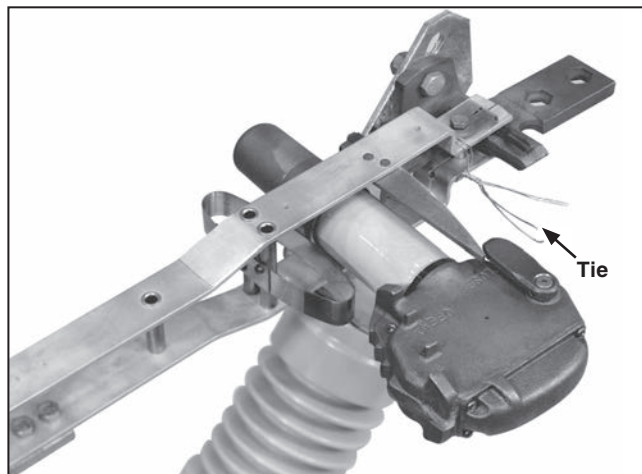

Figure 13. Tying the switch blade to the main contacts.
STEP 11. To minimize time-consuming final adjustments, make sure the switch is fully closed. Tie the switch blades to their stationary main contact assemblies. See Figure 13.